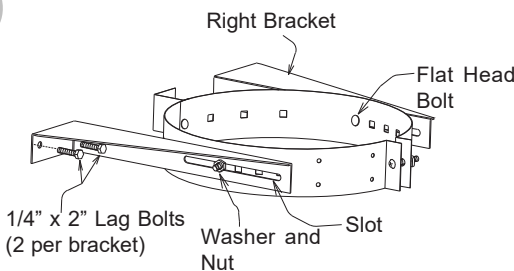

FIGURE 45b
4. Place the Band between the left and right brackets with the Spacer Clip and Tabs oriented as shown in Figure 45b.
5. Attach the band to the wall brackets using 2 flat head bolts (1 per bracket) and nuts. The bolts should pass through the holes corresponding to the pipe diameter and through the slots of the brackets. These slots allow for horizontal adjustment of the pipe from the wall (see Figure 45b).